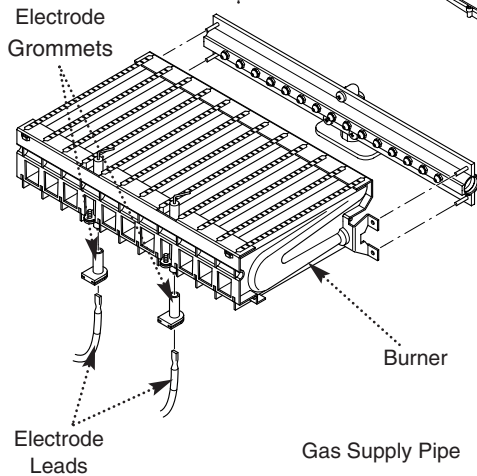

Fig. 53a
19. Turn the tap off. Undo the blanking cap and remove the threaded bush (Fig. 53a).